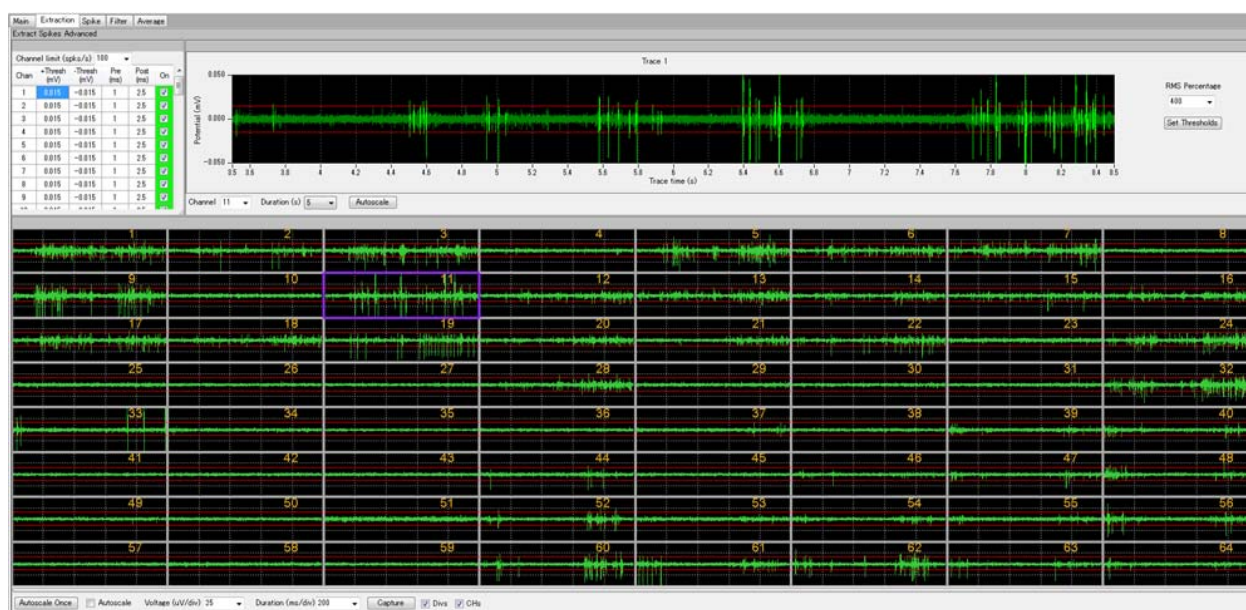

Figure 10 Spike extraction with the [Extract Spikes Advanced] module.
1. Typing numbers in the chart. (Top-left in the Figure 10)
2. Moving bars in the single channel display. (Top middle in the Figure 10)
3. Setting thresholds as SD (Standard Deviation) percentage. (Top right in the Figure 10)
4. Moving bars in the 64ch display. (Bottom in the Figure 10)